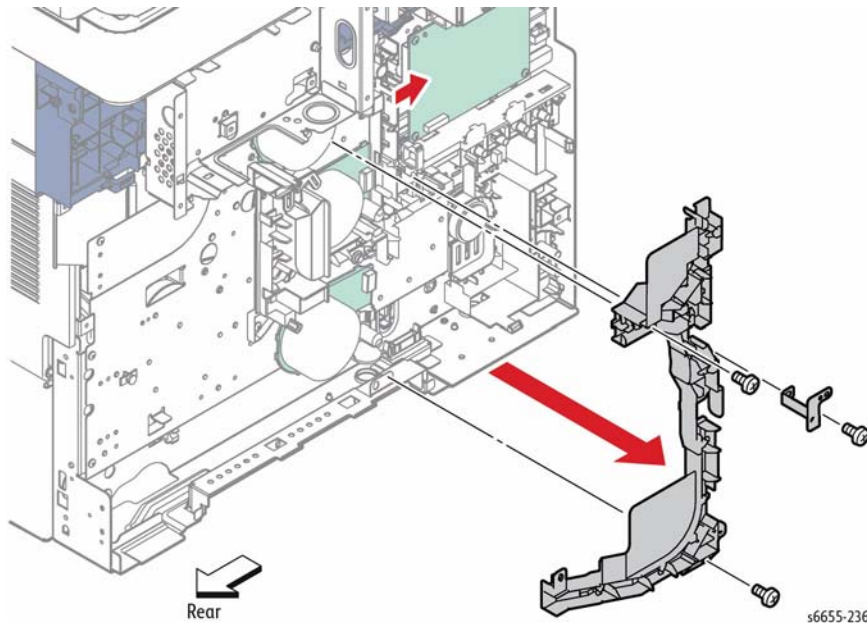

Figure 1 Remove the Left Harness Guide
3. Refer to Figure 1 to locate and remove the screw (silver, 6 mm) that attaches the HV Ground Plate to the printer and remove the plate.
6. Refer to Figure 1 to locate and remove the two screws (silver, 6 mm) that attach the Left Harness Guide to the printer.